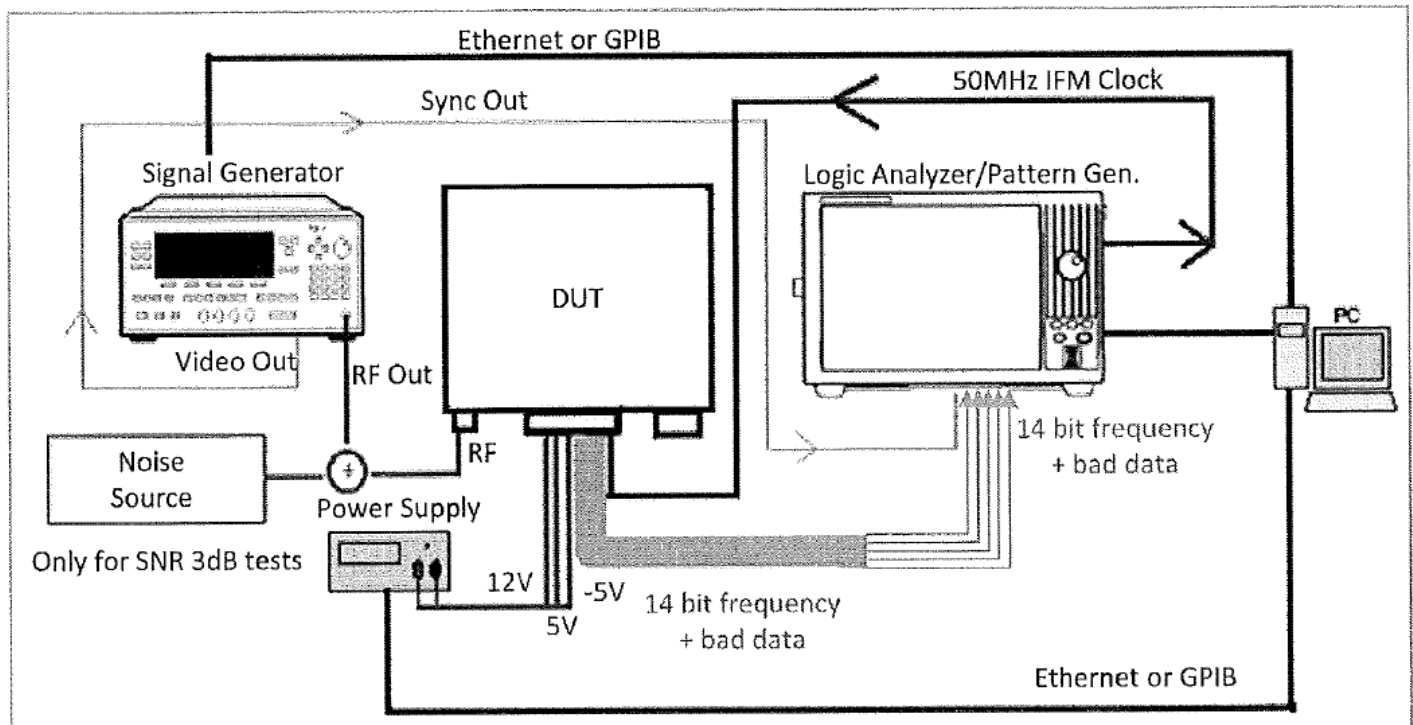

Figure 2: The test setup
The test setup is shown in Figure 2:
- A representative test setup is shown in Figure 2.
- A noise source with an output of -53 dBm*** is used in the setup given in Figure 2.